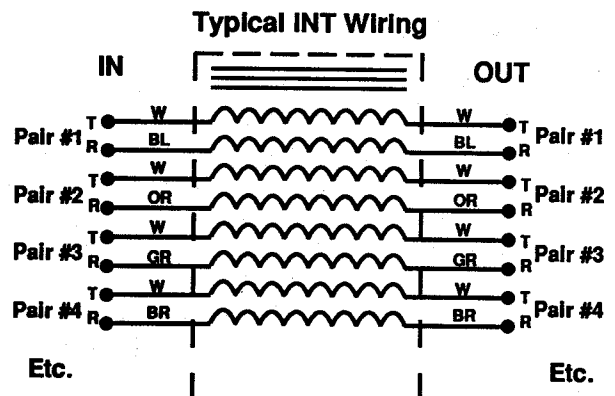

Figure 8: Typical INT Wiring
4.01 An SNC INT is made out of multipair, telephone-type cable core, wound around a laminated steel core. It is arranged for the connected pairs to go in and out of the transformer on a metallic basis. For example, tip wire in, through the winding of the transformer and tip wire out, thus providing DC continuity (See Figure 8).